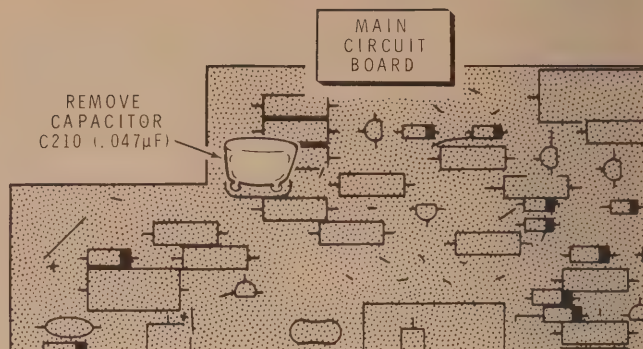

Figure 3
- () Refer to Figure 3 and remove the .047 μ F Mylar capacitor, C210, from the top of the main circuit board. This capacitor may be unsoldered or clipped out with a pair of small side cutters.